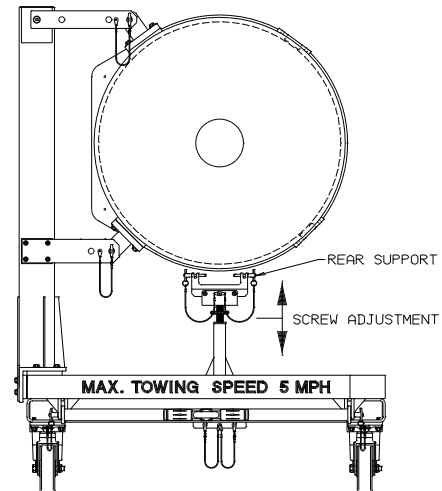

FIGURE 4
6. Position rear support under the rear engine flange (IP78-10-00). Raise the rear support and pin in place. See Figure 4.